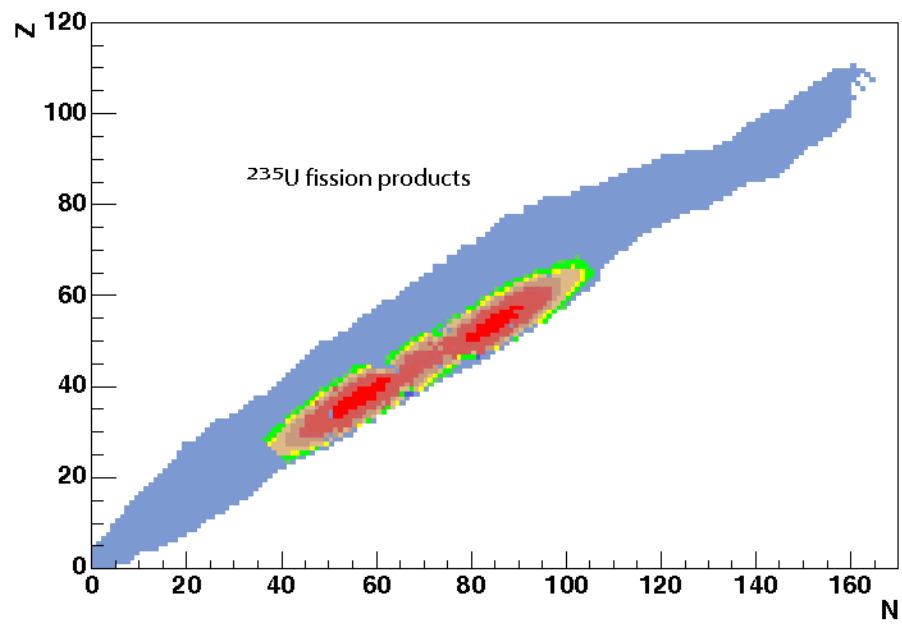

Figure 6.11: Fission yield for ^{235}U .
- **Fission:** Two files are needed for the inclusion of spontaneous fission decays and neutron induced fission reactions: `FPavailable.dat` and `FPyield.bin`, which have been built by `MURE/utils/fp/GenerateFPYield`. The first file is in ASCII format and contains the fission energies for each available ZAI , and the position (records) of the fission product yields in the binary file `FPyield.bin` (see for example Fig. 6.11 and 6.12). Even if these files are provided with MURE, you can regenerate them by providing the appropriate ENDF fission yield file.